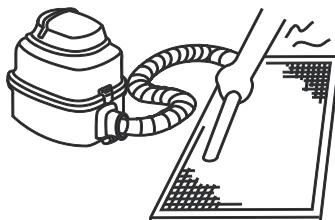

Figure 13.3
a. The air intake side should face up when using a vacuum cleaner. (Refer to Fig.13.3)